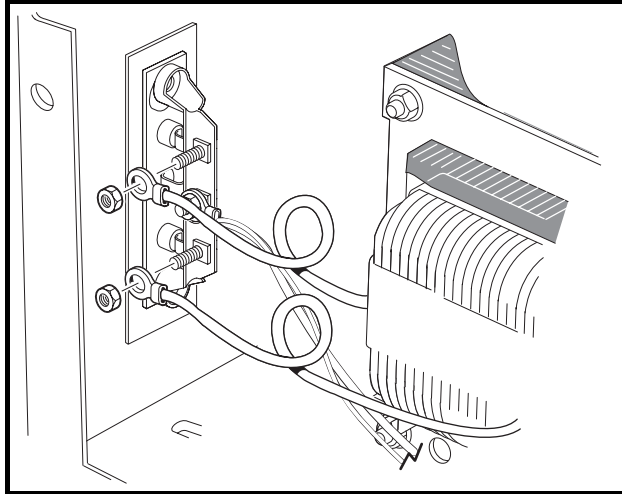

Figure 4-18 Remove Secondary Coil Wires From Heatsink
4. Disconnect transformer secondary coil wires from the heatsink (**Figure 4-18, Page 4-20**).